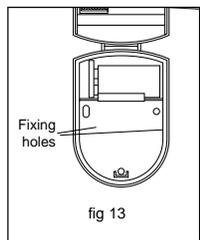

fig 13
- Place the backplate of the unit in the desired position and mark the locations of the fixing holes (fig 13). Next drill the holes to the required depth and insert the wall plugs.